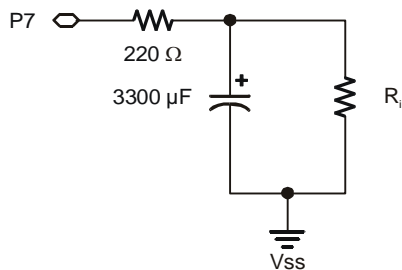
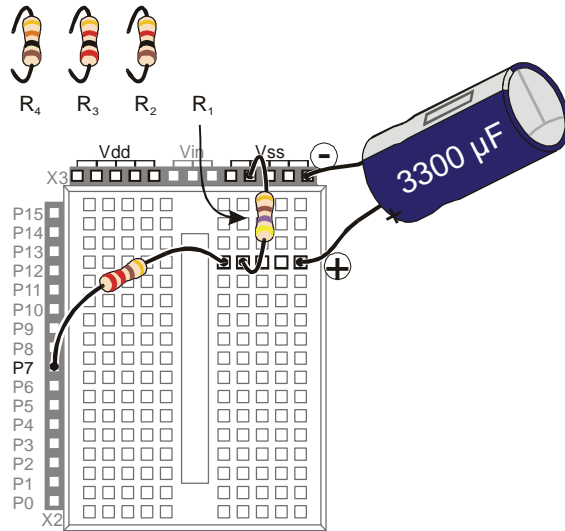

Figure 5-8
Figure 5-9
Figure 5-8 shows the circuit schematic and Figure 5-9 shows the wiring diagram for this activity. You will be taking time measurements using different resistor values in place of the resistor labeled R_i .
Your 3300 μF capacitor will work fine in this experiment so long as you make sure that the positive (+) and negative (-) terminals are connected EXACTLY as shown in Figure 5-8 and Figure 5-9.
- ✓ Remove the 470 Ω resistor labeled R_i in Figure 5-8 and Figure 5-9 on page 146, and replace it with the 1 k Ω resistor.